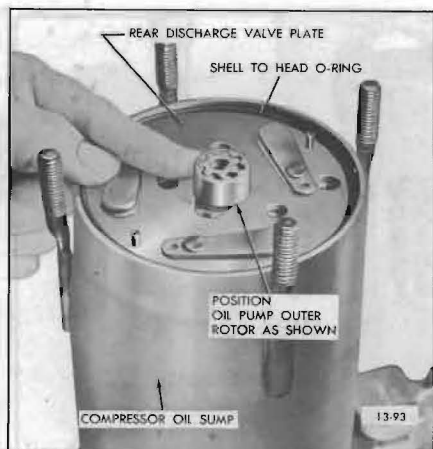

Figure 13-93—Positioning Oil Pump Outer Rotor
4. Reassemble inner and outer oil pump rotors so that the sides previously identified are in their original location, and then position oil pump outer rotor as shown in Figure 13-93.
5. Generously coat with No. 525 viscosity oil new shell to head "O" ring and install in shell (see Figure 13-93).